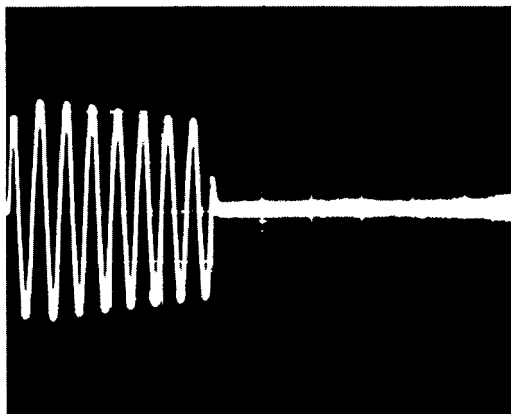

Figure 9a
7.1.4.2 Observe the output on the scope. Verify that the wave shape is substantially as shown in Figure 9a. Then verify for the other channel.